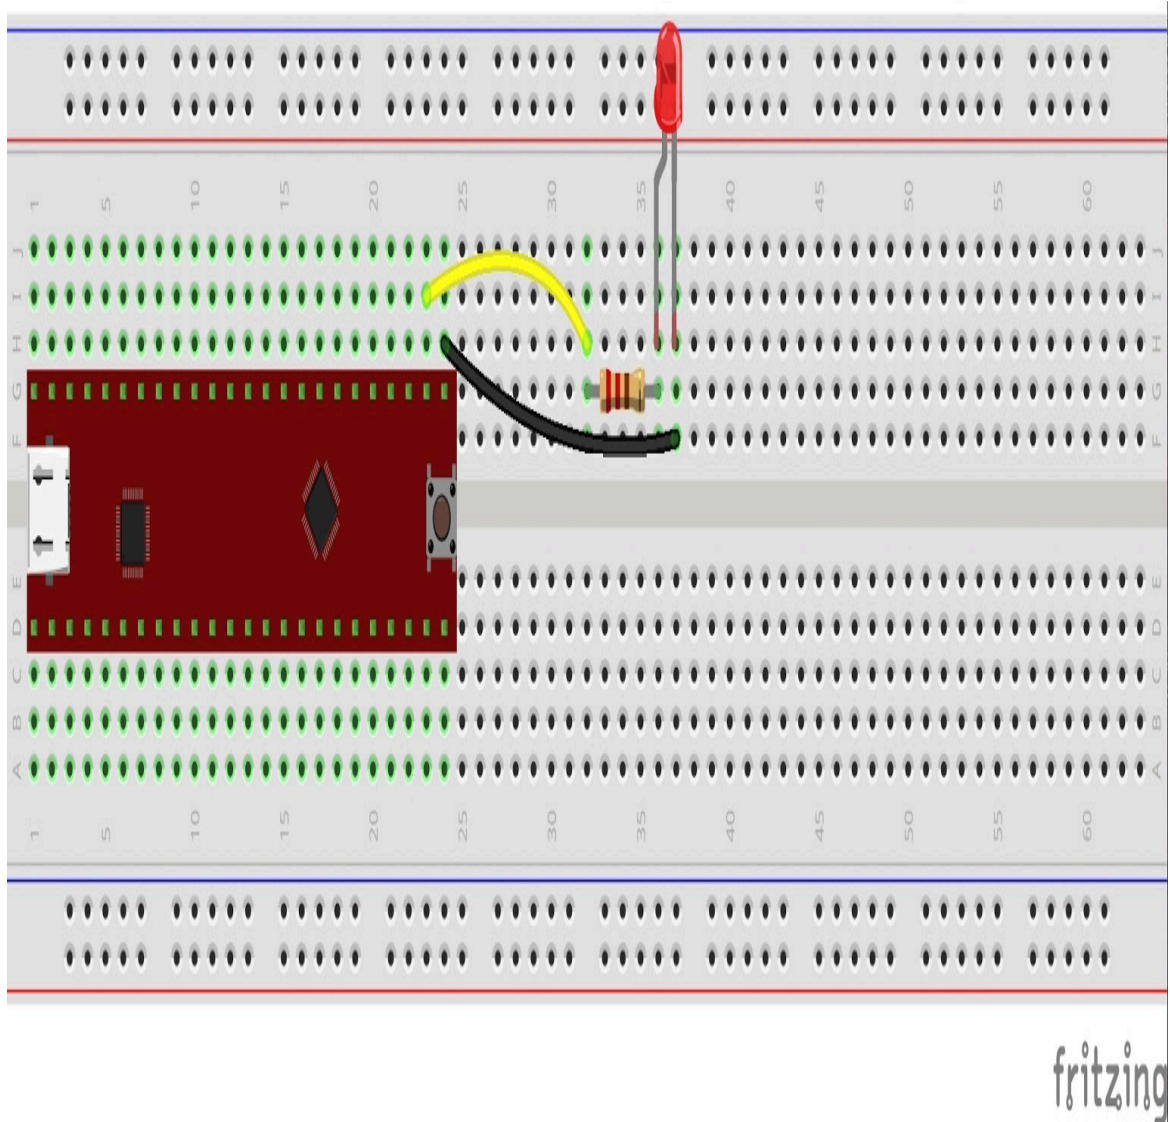

Figure 1.14 – Diagram showing the Curiosity Nano and the LED connection
Connect the LED to the breadboard. Now, connect one pin of the 220-ohm resistors to the longest pin of the LED, as shown in *Figure 1.14*. Connect the other pin of the resistor to the pin labeled *RE0 pin* on the Curiosity Nano. The RE0 pin is internally connected to the onboard yellow LED from the Curiosity Nano:
2. Connect the shortest leg of the LED to the ground pin labeled *GND* of the Curiosity Nano using a wire, as shown in *Figure 1.14*. Any GND pin from the Curiosity Nano will do. Remember that the holes of each breadboard column are internally connected.